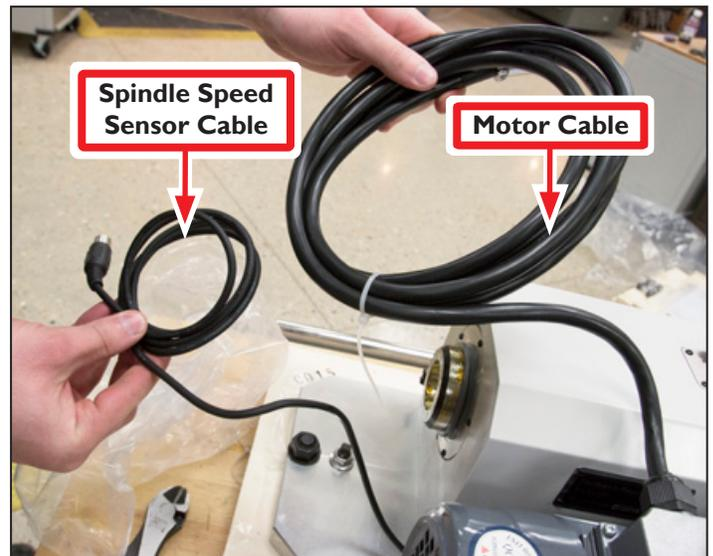

Figure 2.5
2. Remove Spindle Speed Sensor Cable and Motor Cable packaging; cut cable ties (see **Figure 2.5**).